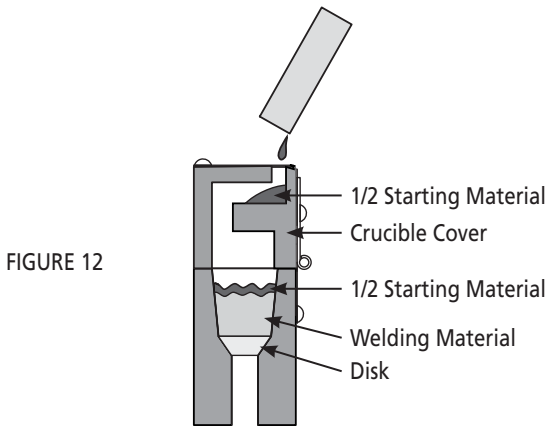

FIGURE 12
- CAUTION:** Use only the specified welding material in the mold crucible. Use only the welding material size that is specified on the mold. ERICO brand of welding material (F80) is formulated specifically for use with rail steel; it is packaged in a blue tube with a yellow cap. Dump all of the welding material into the crucible, then carefully tap the tube on a hard surface to loosen the starting material from the bottom of the tube and distribute half on top of the welding material, close the mold cover, and pour the remainder in the opening of the mold cover. See Figure 12. Failure to comply may result in difficulty getting the reaction started and/or an unacceptable weld.